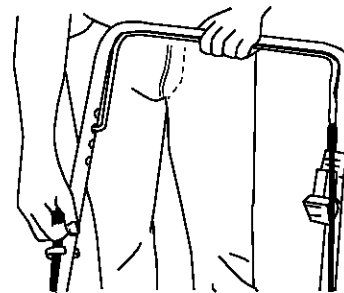

Figure 12
- Standing behind the unit, depress the blade control handle and hold it against the upper handle. See Figure 12.